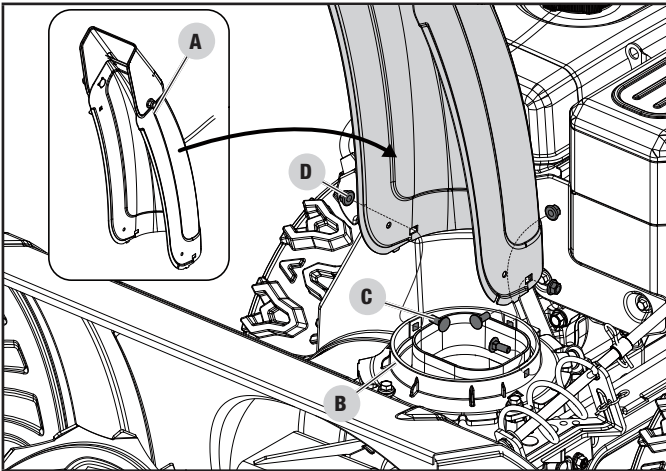

Figure 9
Tip the snowblower back on the wheels. Remove the chute (A) from the bubble wrap. The cable for the chute deflector is pre-attached to the chute and to lever on the bottom of the control panel. Position the chute through the top handle and orientate the chute until the cable lays straight and untwisted from the control panel over the bottom handle cross bar and over the fuel tank. Attach the chute to the chute gear (B). Connect the chute with 3 carriage bolts (C) and 3 locking nuts (D) as shown (Fig. 9). Torque until snug. Do not overtighten.